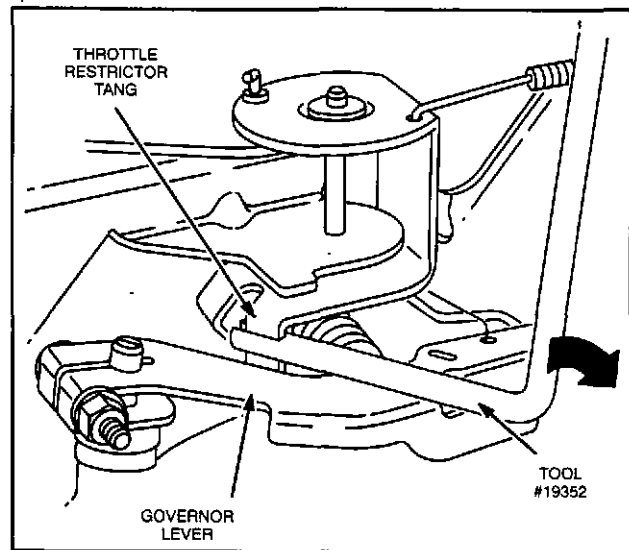

Fig. 25 - Adjusting Throttle Restrictor Tang
2. With equipment control lever in SLOW position and engine running at governed idle RPM, use tang bender, Tool #19352, and bend throttle restrictor tang so that tang just contacts governor lever. Fig. 25.